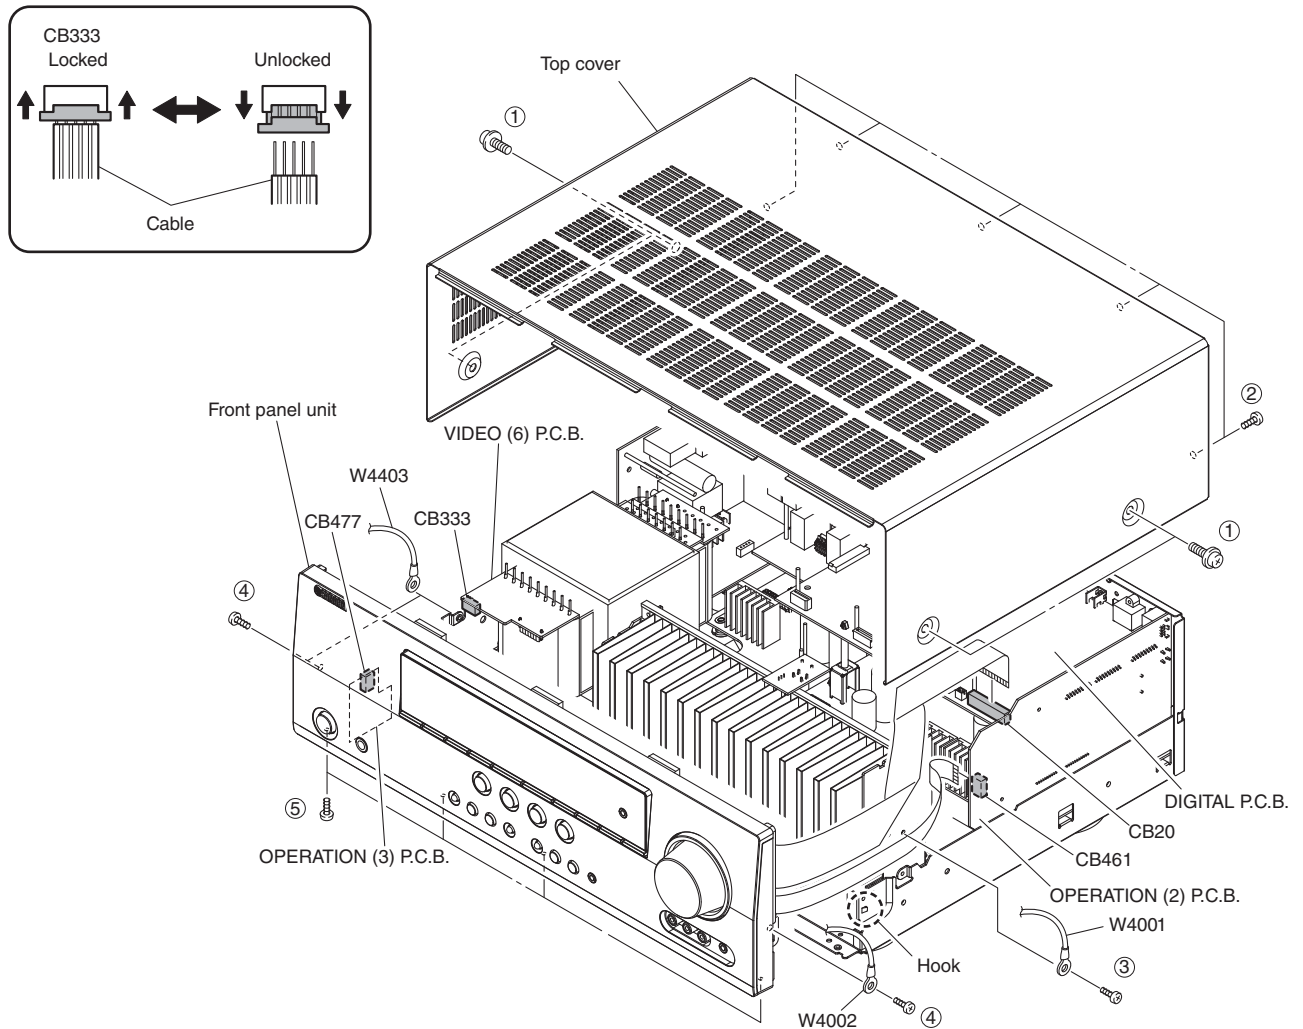

Fig. 1
- Remove 4 screws (①) and 5 screws (②). (Fig. 1)
- Slide the top cover rearward to remove it. (Fig. 1)
- Remove screw (③), and remove W4001. (Fig. 1)
- Remove 2 screws (④), and remove W4002 and W4403. (Fig. 1)
- Remove 4 screws (⑤). (Fig. 1)
- Remove CB20, CB461 and CB477. (Fig. 1)
- Unlock and remove CB333. (Fig. 1)
- Release 2 hooks, and remove the front panel unit. (Fig. 1)